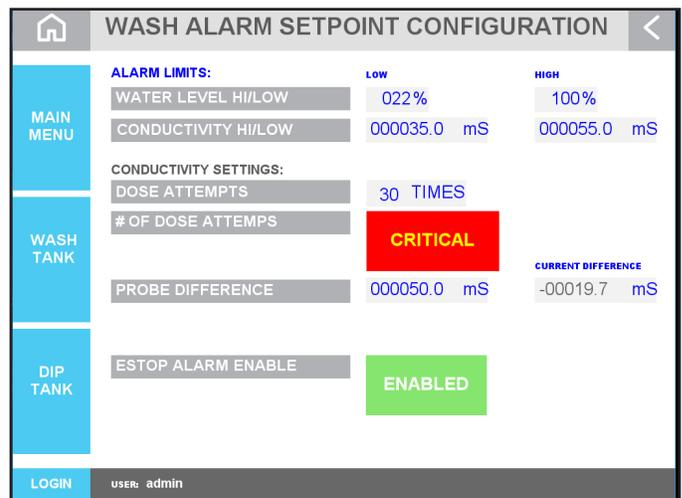

Figure 6.2: Wash Alarm Set point Configuration screen
3. From this screen the following settings can be configured [Figure 6.2]: